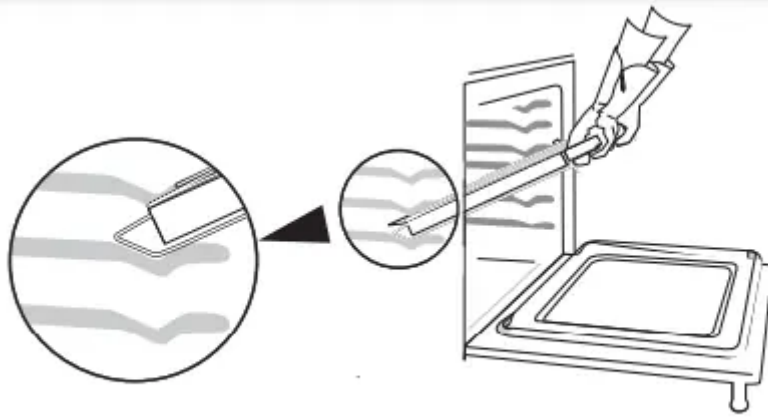

Figure 4: Remove and replace using both hands
- Using both hands, grasp the upper and lower portions of the glide rack. Lift up the front of the rack slightly and continue to pull the rack away from the oven (Figure 4). Be sure to grasp both upper and lower rack portions together when removing or handling the glide rack.